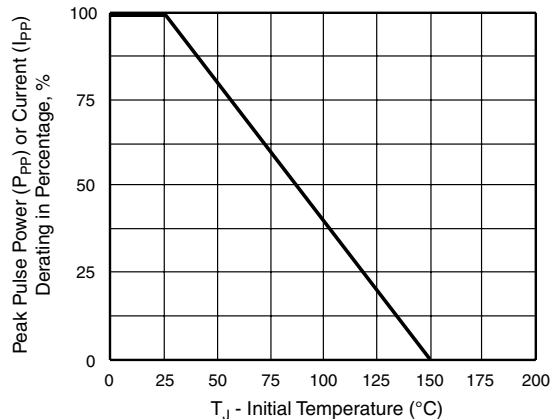

Figure 2. Pulse Power or Current vs. Initial Junction Temperature
(1) Non repetitive current pulse per Fig. 3 and derated above 25 °C per Fig. 2
(2) Mounted on 5.0 mm2 copper pads to each terminal
(3) Lead temperature at  $T_L = 75\text{ °C}$
(4) Peak pulse power waveform is 10/1000  $\mu$ s